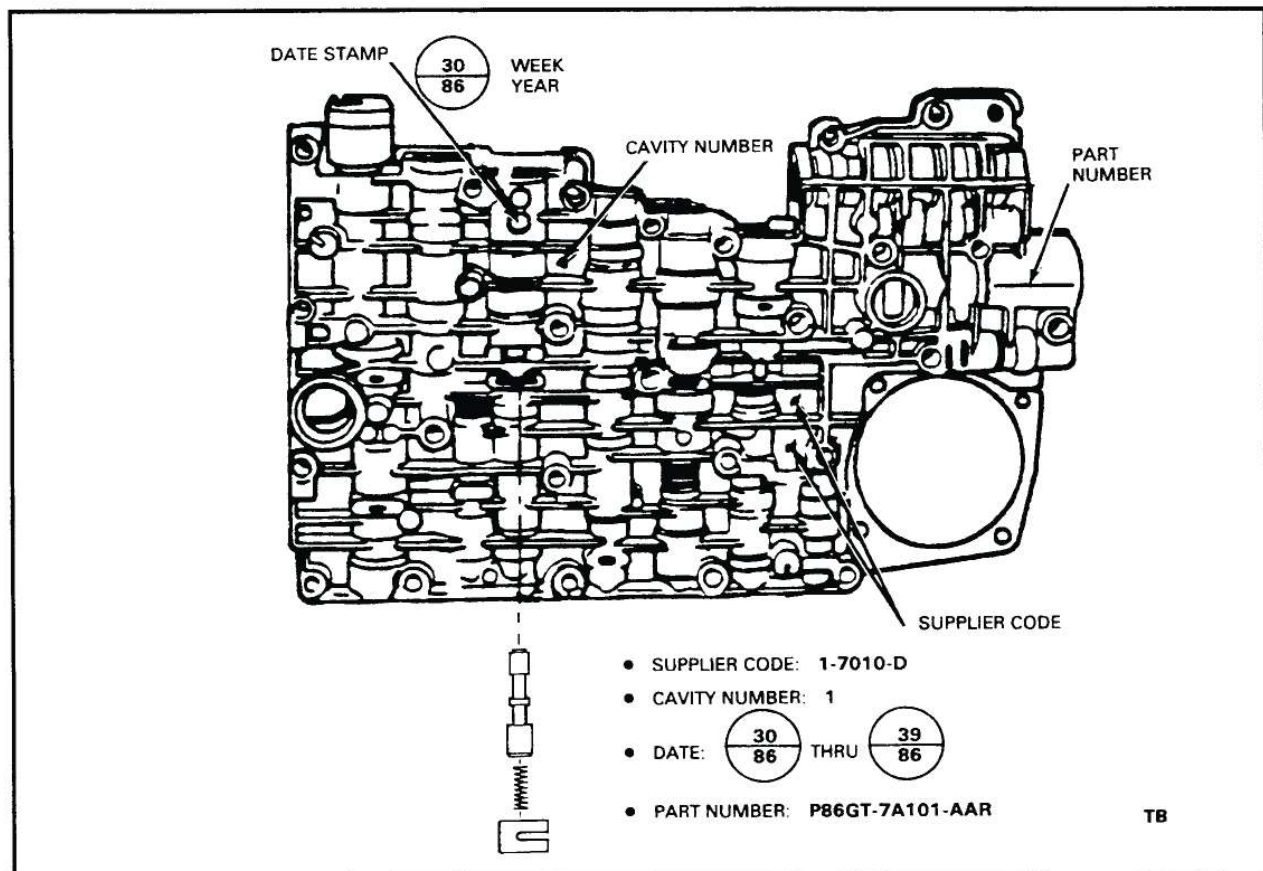

Figure 83
**CORRECTION:** To compensate for the casting flaw, replace the 3-2 kickdown timing valve with an updated valve (See Figure 83).